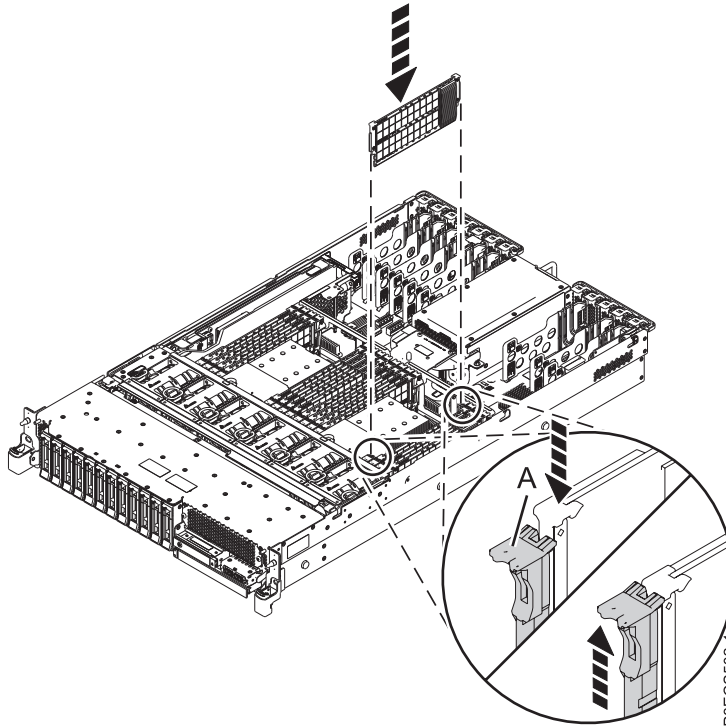

Figure 3. Installing or replacing a memory module in the 5148-21L, 5148-22L, 8247-21L, 8247-22L, 8284-21A, or 8284-22A system
5. Press the memory module firmly into the slot until the locking tab (A) locks in place. See Figure 3 on page 6.